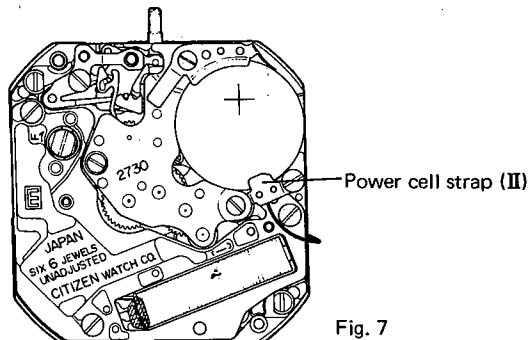

Fig. 7
The power cell strap is unset by unfastening a screw for power cell strap (II) and turning the strap toward an arrow as illustrated in Fig. 7.